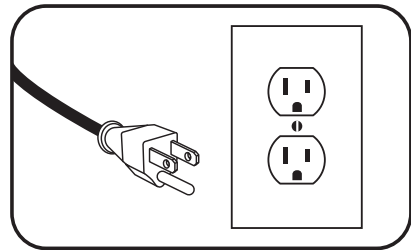

fig. A2 - Three-Prong Receptacle
- o. For added safety, the fixture must be plugged into a receptacle controlled by a GFI (ground fault interrupter) circuit breaker. Device must be properly connected to a grounded three-prong receptacle. (fig. A2)